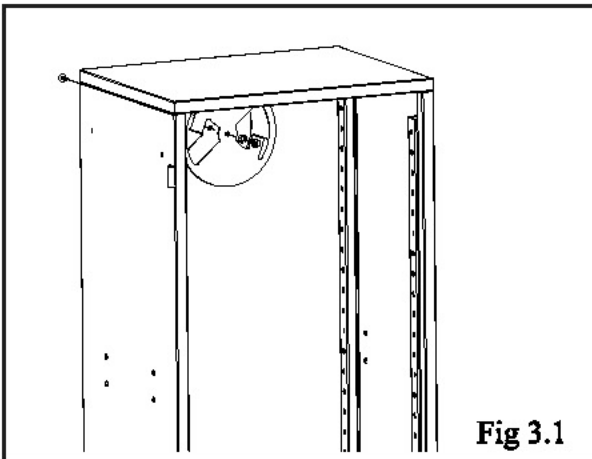

Fig 3.1
Attach the Big Damper(7) to the inside of the back side of upper cabinet using (1)10-24x1/2" bolt,(1)10-24 hex nut and(1)#10 washer. Fig 3.1.